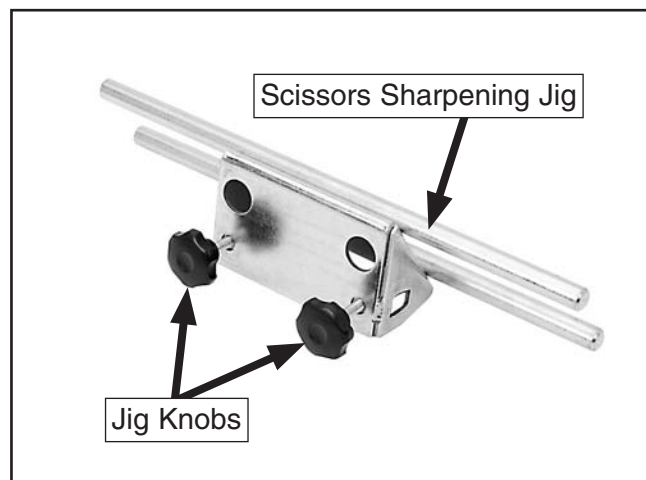

Figure 4. Scissor jig assembly.
1. Assemble the jig as shown in **Figure 4**. Thread the jig knobs into the scissors sharpening jig only far enough so that they stay in place and will not interfere with sliding the jig onto the universal support.